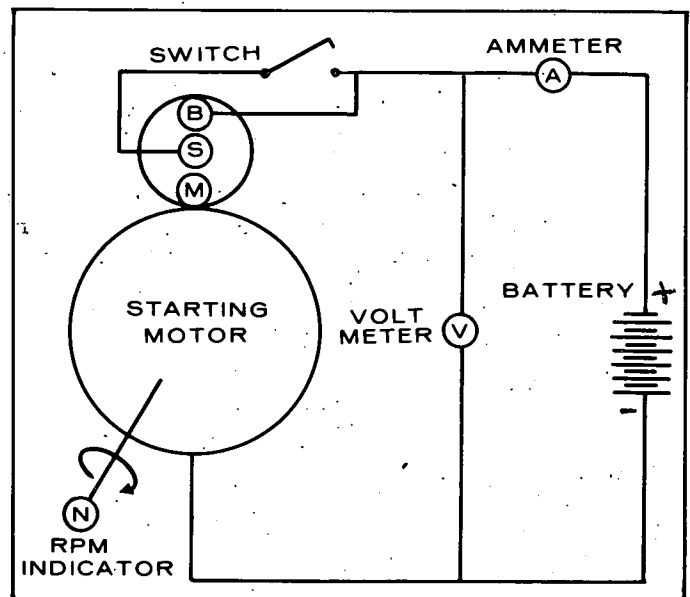

FIGURE 42. STARTING MOTOR WIRING
1. For no load test, the starting motor is wired as shown in Figure 42 and revolved. The value of the meter reading at this condition should be as follows: